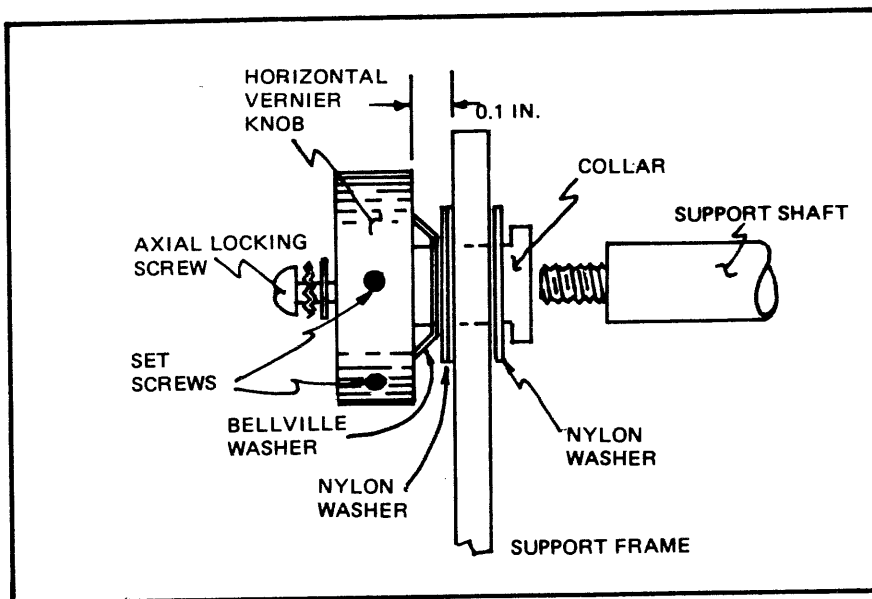

Figure 66 Horizontal Vernier Assembly
1. Remove the two set screws from Horizontal Vernier knob (figure 66); and then remove the axial locking screw, star washer, and flat washer from knob center.